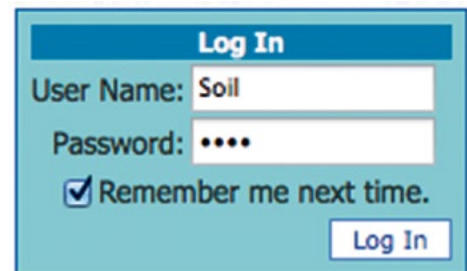

Figure 24. Web reports login.
2. Enter the **Username** and **Password** listed on page 3 (see Figure 24).